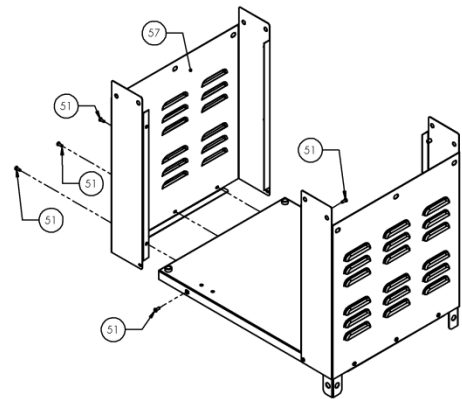

Figure 2
- 2) Insert left panel assembly (57) onto bottom pan assembly (60) flush to the sides and flush to the bottom. Secure using 5 8-32 screws (51). See Figure 2.